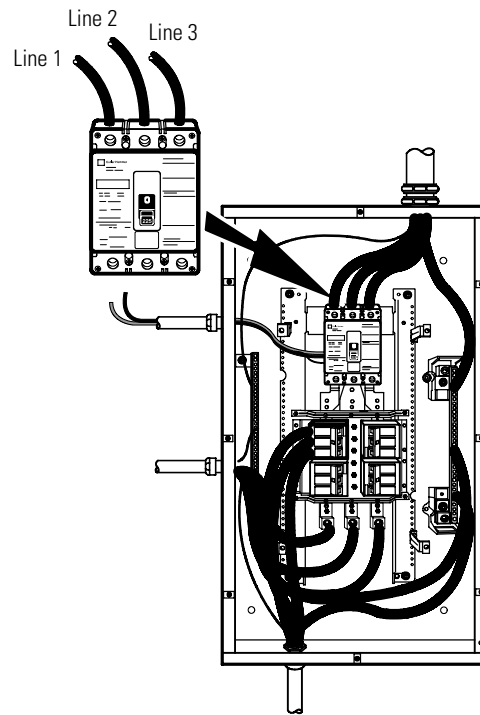

Figure 25. Bypass AC Input Wiring
17. Wire the AC input to the bypass breaker (see Figure 25).